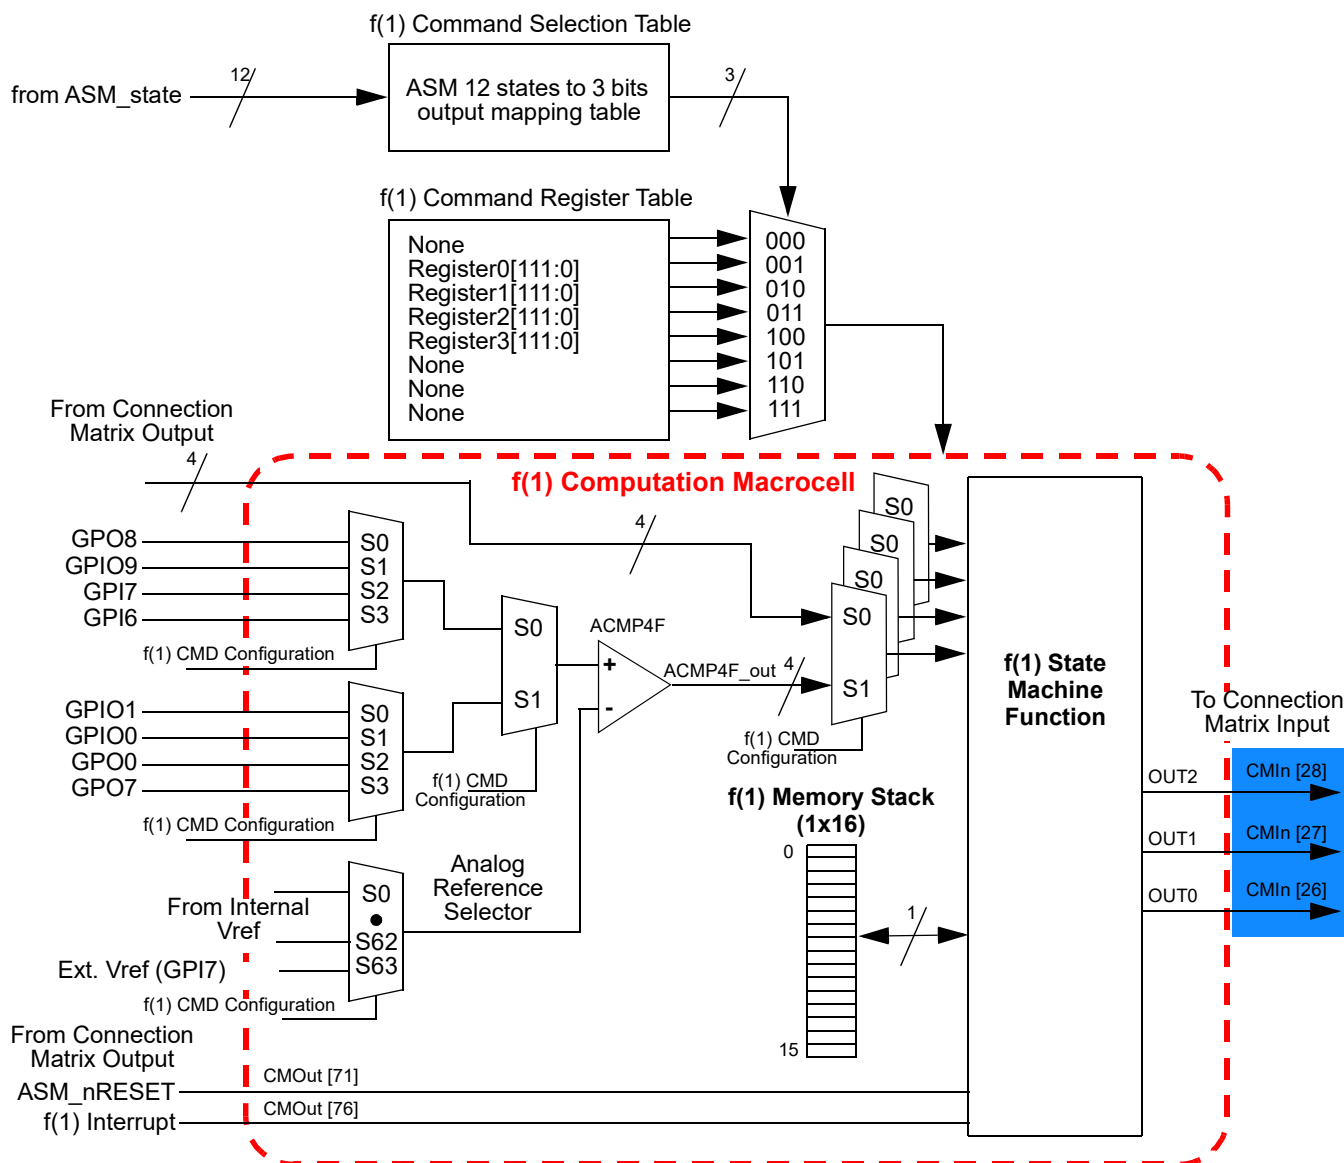

Figure 127: f(1) Computation Macrocell Output Signals
17.4 f(1) COMPUTATION MACROCELL OUTPUT SIGNALS
The f(1) Computation Macrocell has 3 digital output signals that go to the Connection Matrix, and from there can be routed to other internal macrocells or pins. These signals are shown in Figure 127, highlighted in blue. The state of these output signals are under user control, and are changed based on the Output commands.